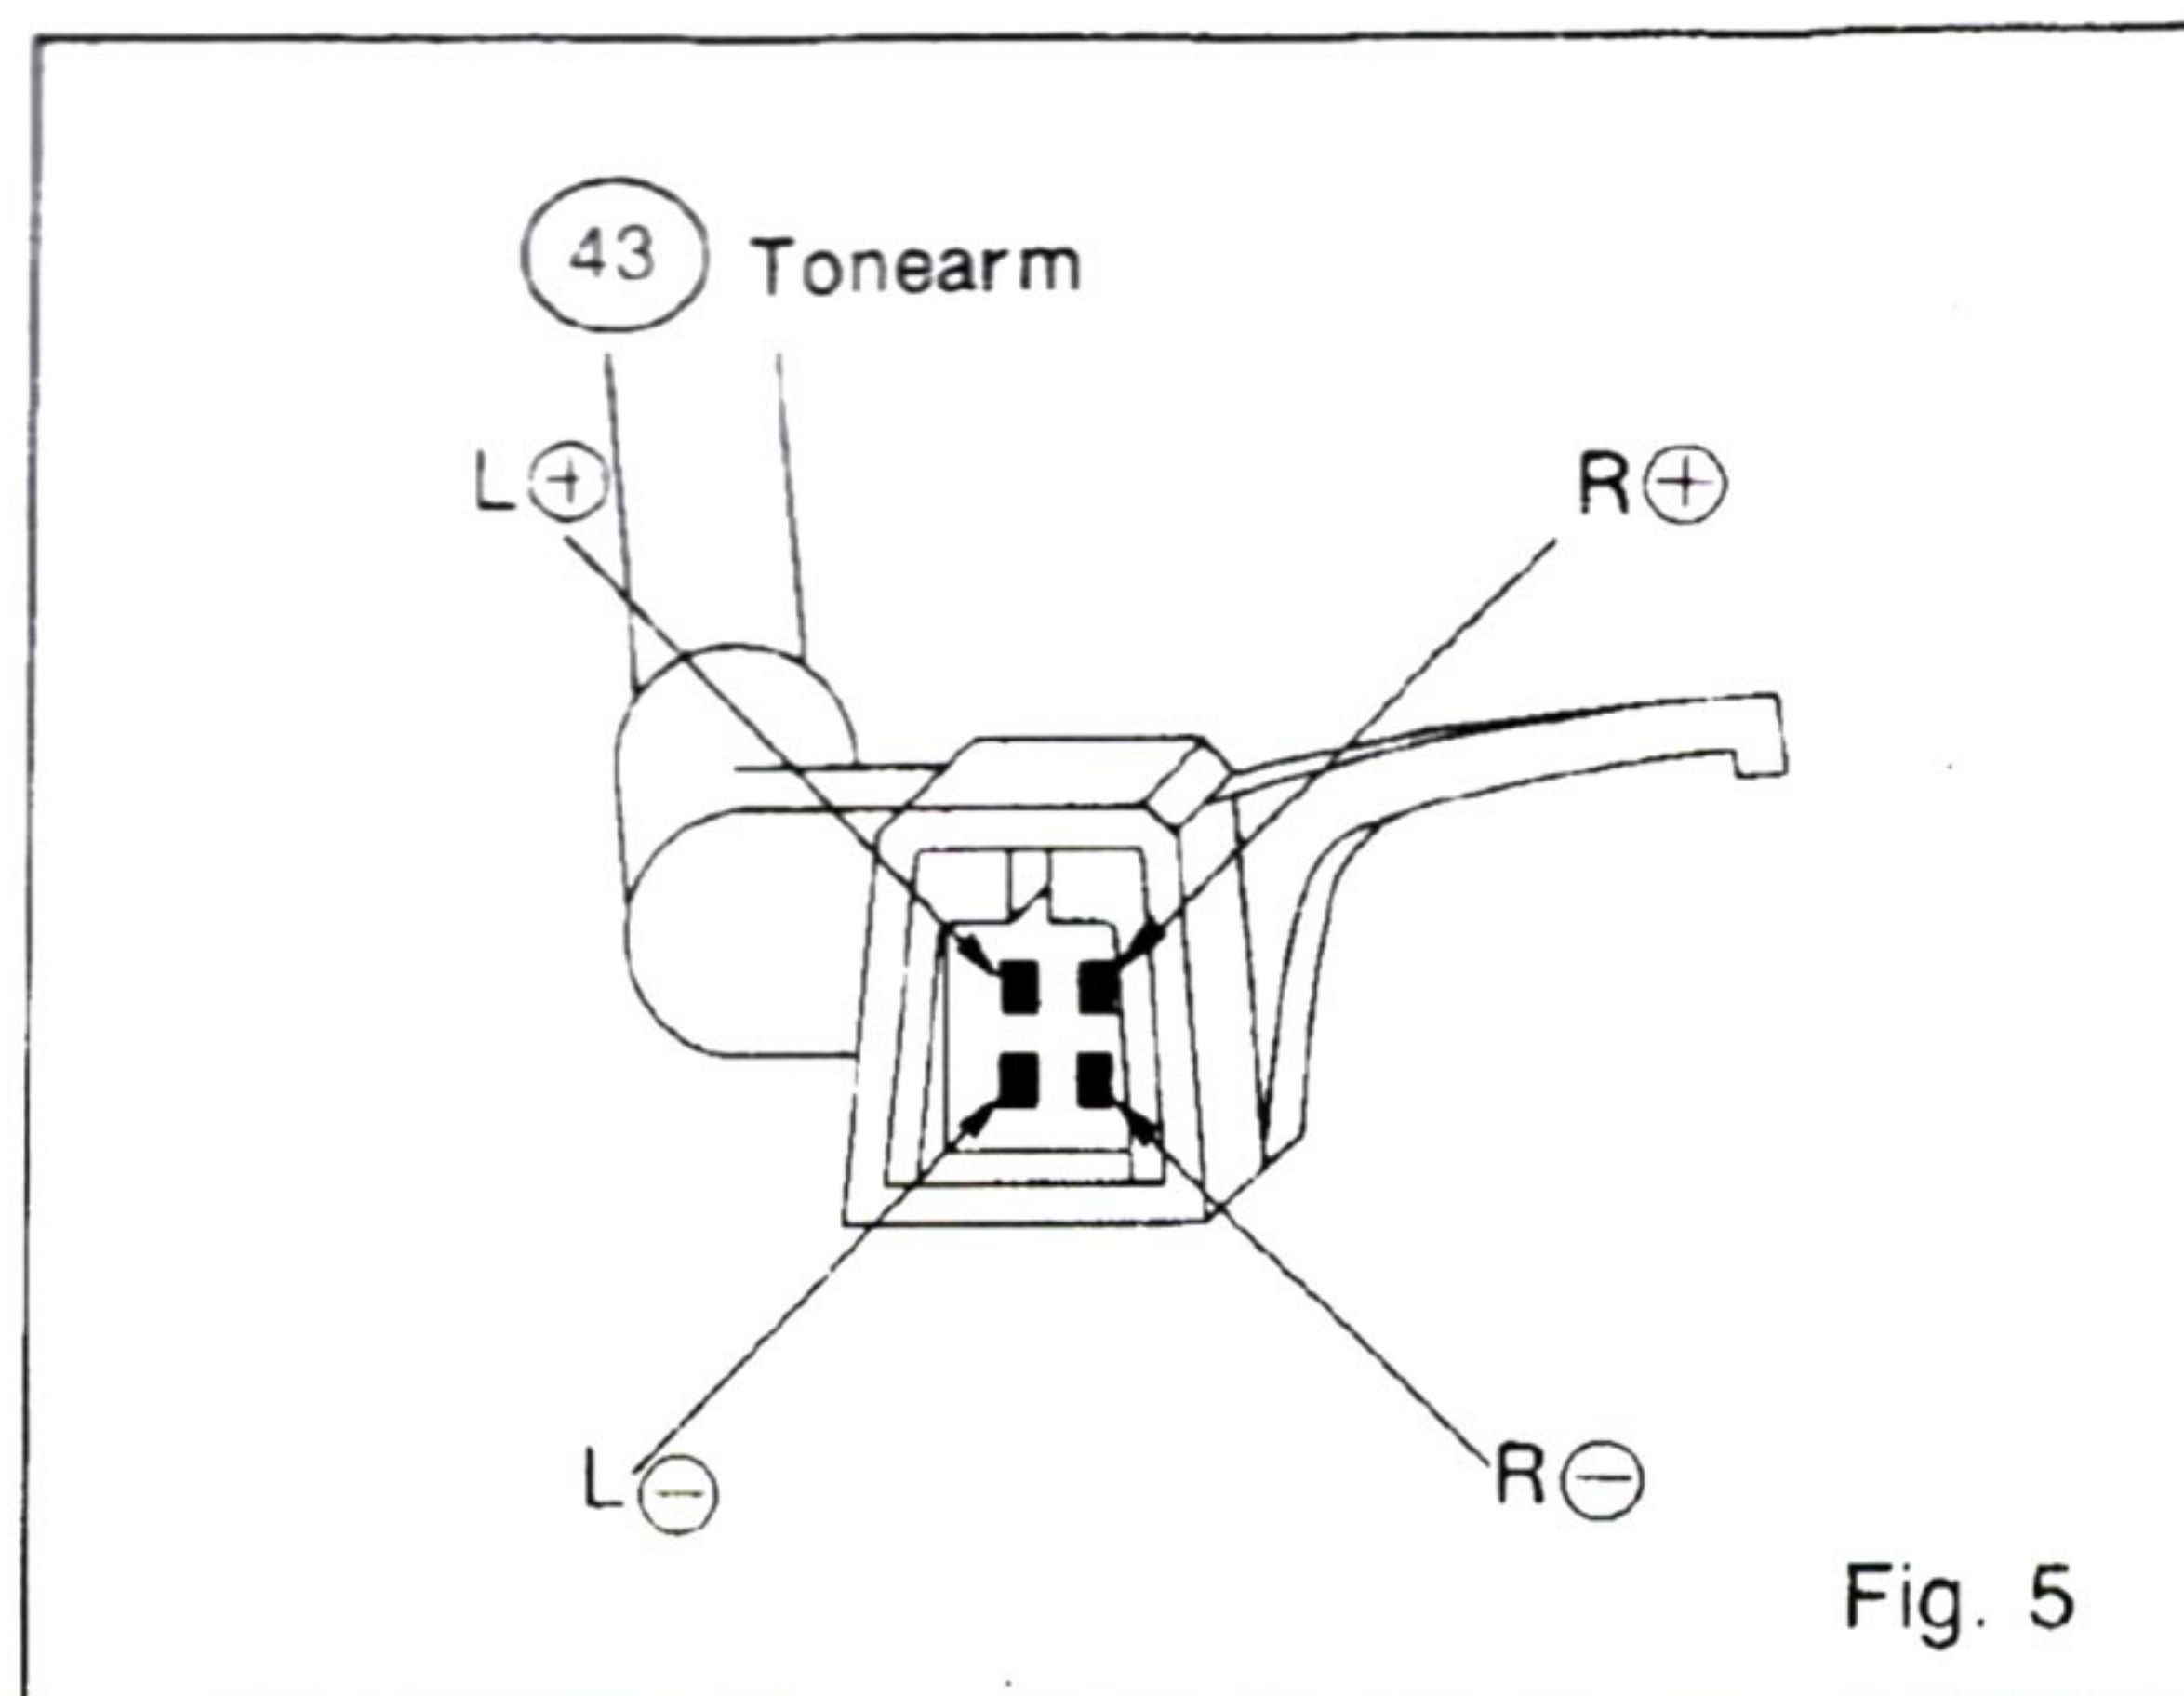

Fig. 5
- Removing Cartridge (42), touch the upper two terminals (L ⊖ and R ⊕) at the end of tonearm (43) with a metallic screwdriver and listen for the speaker to produce a humming noise (Fig. 5).